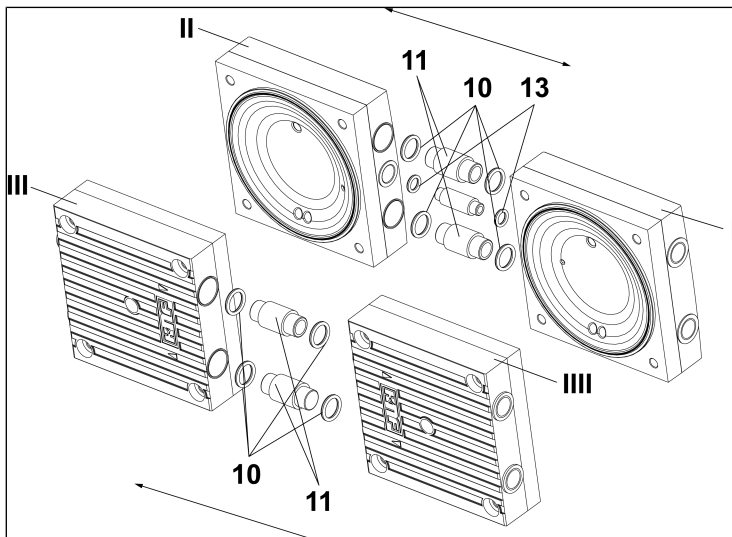

Fig. 8: Removal of the O-rings and connection pipes
8. Pull heads 1 (I/ Fig. 8) and 2 (II/ Fig. 8) apart and remove the O-rings (10/ Fig. 8) and (13/ Fig. 8).
7. Place the O-rings (10/Fig. 8) and (13/Fig. 8) on the connection.
8. Press heads 1 and 2 (I and II/Fig. 8) together.